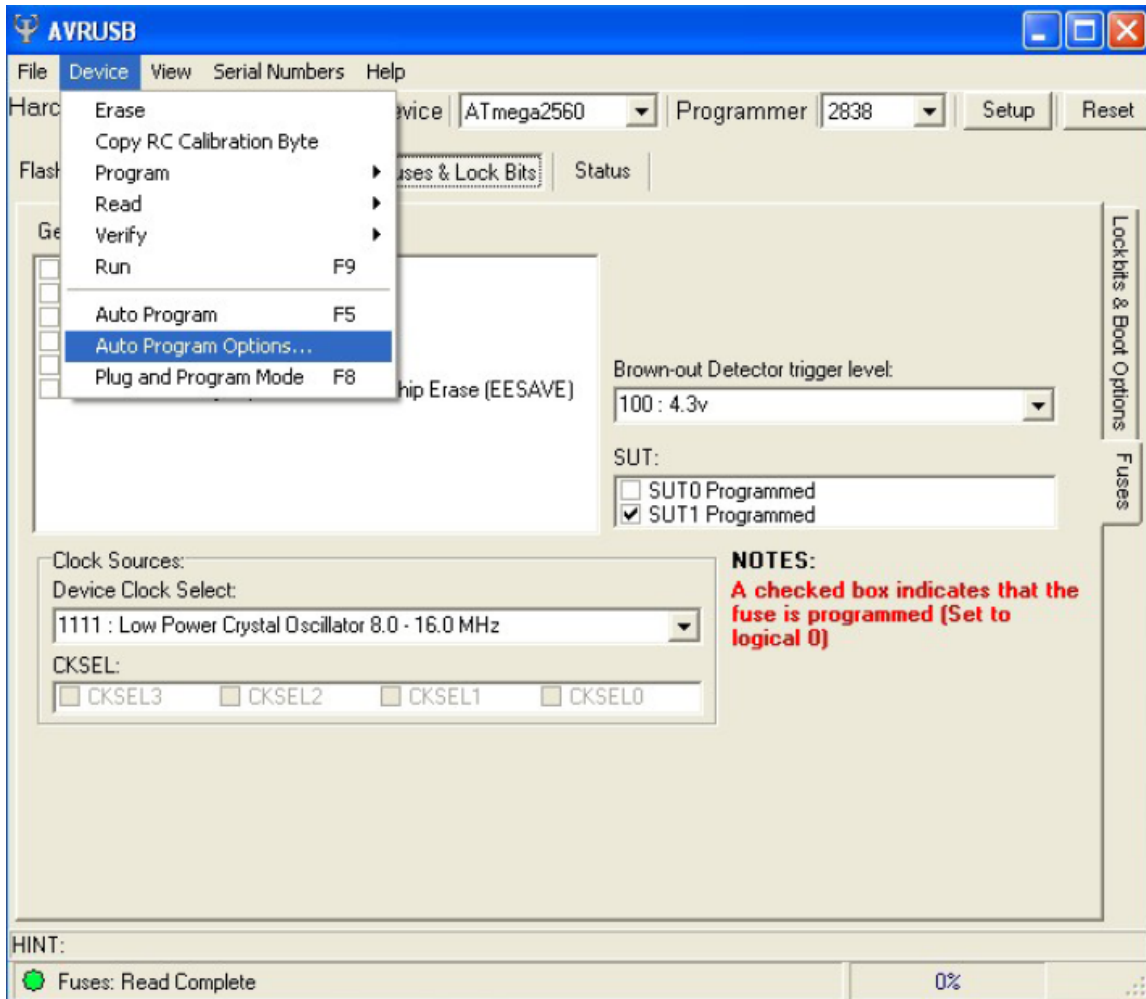

Figure 11
10. From the menu list at the top of the screen select *Device* and then *Auto Program Options*. See Figure 11.